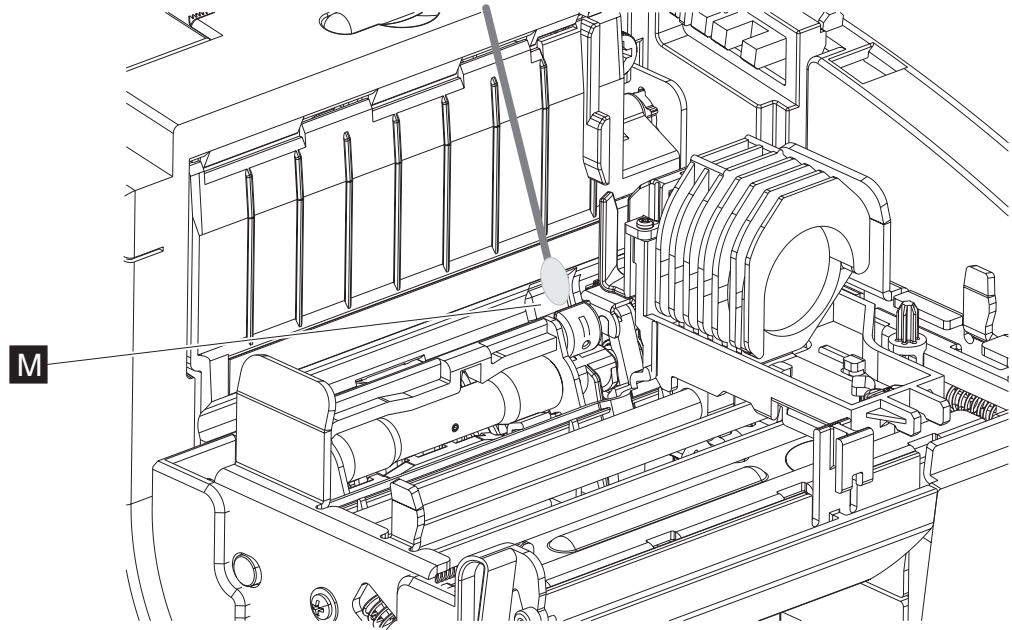

Figure 19. Cleaning the MICR head
3. Move the carriage to the right until it stops, or as shown in Figure 19 on page 27.
4. Gently wipe the head (see **M** in Figure 19) with the swab several times. Wipe away any residual alcohol with a dry swab.